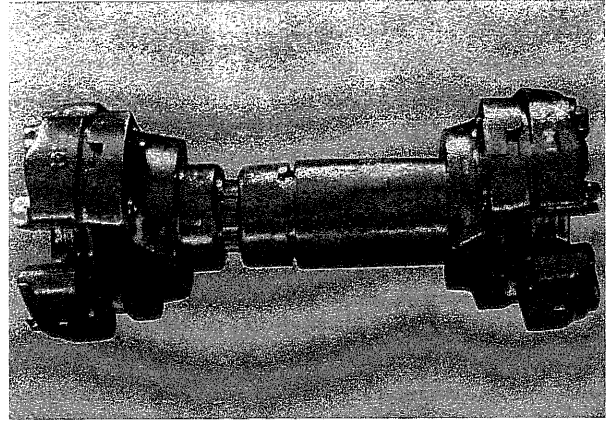

Fig. 70
- 1) Separate drive shaft. (Fig. 70)